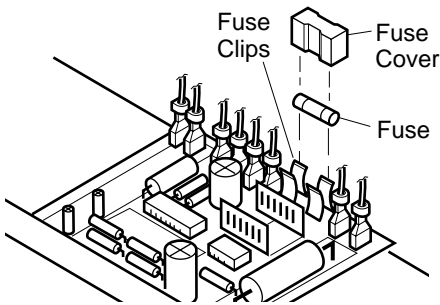

Figure 18 - Replacing Fuse
2. Remove side cover screws (4) using 5/16" nut-driver to expose ignition control assembly.
3. Remove fuse cover (see Figure 18).